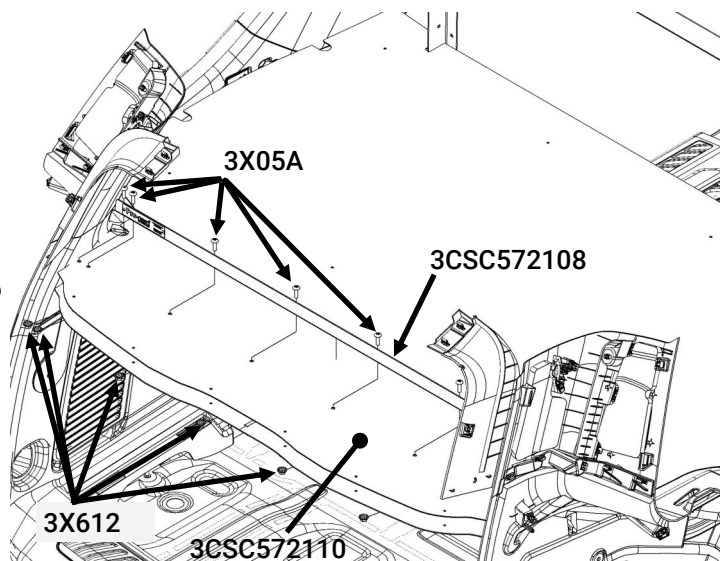

Figure 7
- A. Place the rubber mat [3CSC572110] over the panels and align with panel holes. Use the (6) push-in plastic rivets [3X246] to secure (Fig 7).
- B. Slide in and align the (8) holes in the Top Bar Assembly [3CSC572108] with the corresponding holes in the cargo cover panel, support brackets and rear crossmember.
- C. Fasten the (8) [3X05A] screws through the top, into the (8) [3X612] serrated nuts.